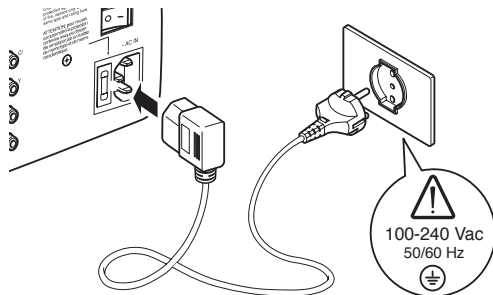

Fig. 3
- Connect the projector to a power supply with a nominal voltage within the following values: 100-240 Vac, 50/60 Hz, earthed (**Fig. 3**).